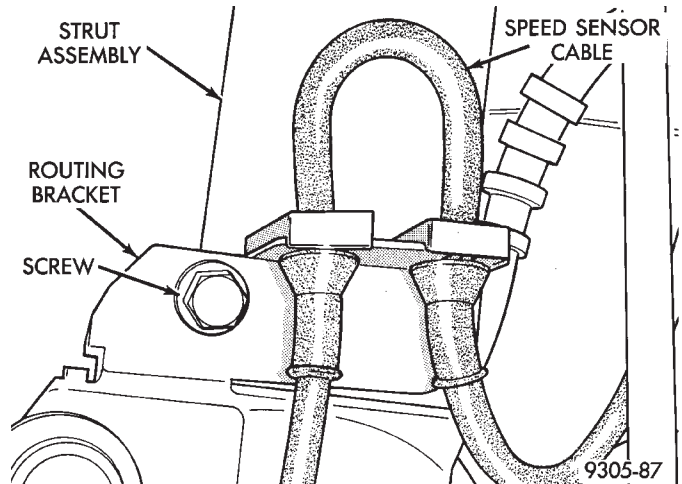

**Fig. 53 Speed Sensor Cable Routing Bracket**
(7) If vehicle is equipped with antilock brakes, remove the speed sensor cable routing bracket from the strut assembly (Fig. 53).
(12) If the vehicle is equipped with antilock brakes. Install the front speed sensor cable routing bracket onto the front strut assembly (Fig. 53).